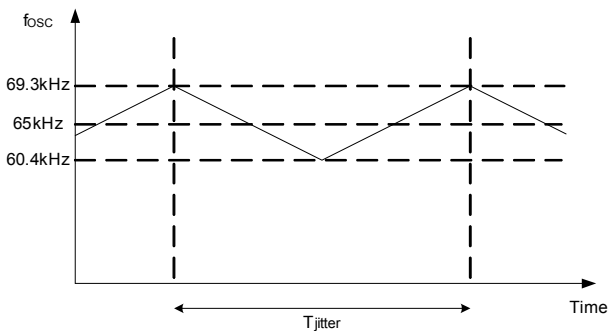

Figure 3: Frequency Jitter
A controlled current sourced (fixed at $2.72\mu\text{A}$ when $V_{\text{FB}}=2\text{V}$) charges the internal 14pF capacitor. Comparing the capacitor voltage to the TIMER voltage estimates the switching frequency as per equation (1). V_{TIMER} is a triangular wave that ranges between 2.8V and 3.2V with a charging/discharging current of $10\mu\text{A}$. Figure 3 shows the frequency jitter, τ_{jitter} , as per equation (2).